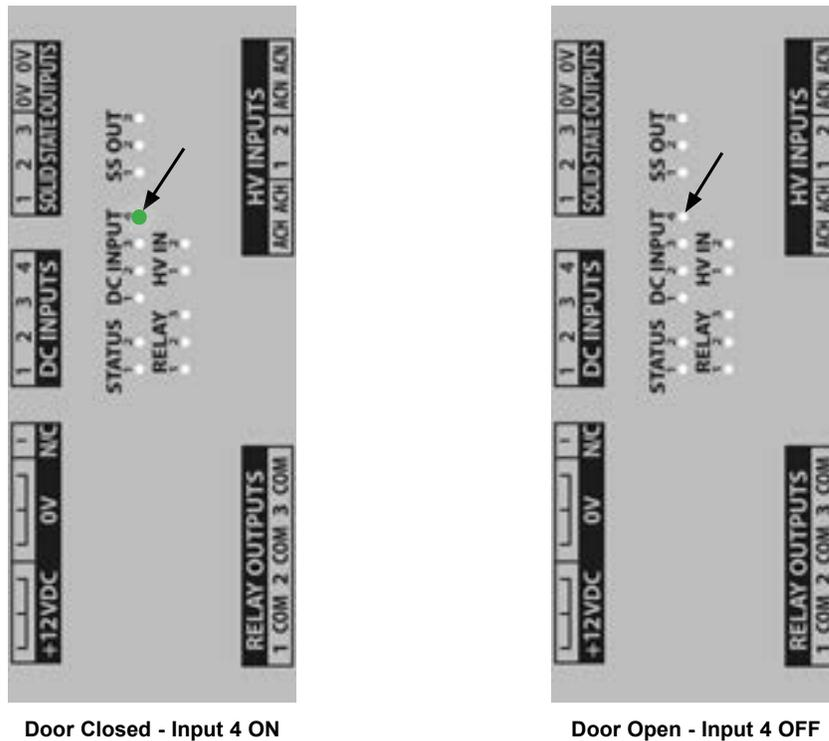

Figure 43
- Small Terminal Board: DC Input #4 OFF (Figure 43)
- Small Terminal Board: DC Input #4 ON (Figure 43)